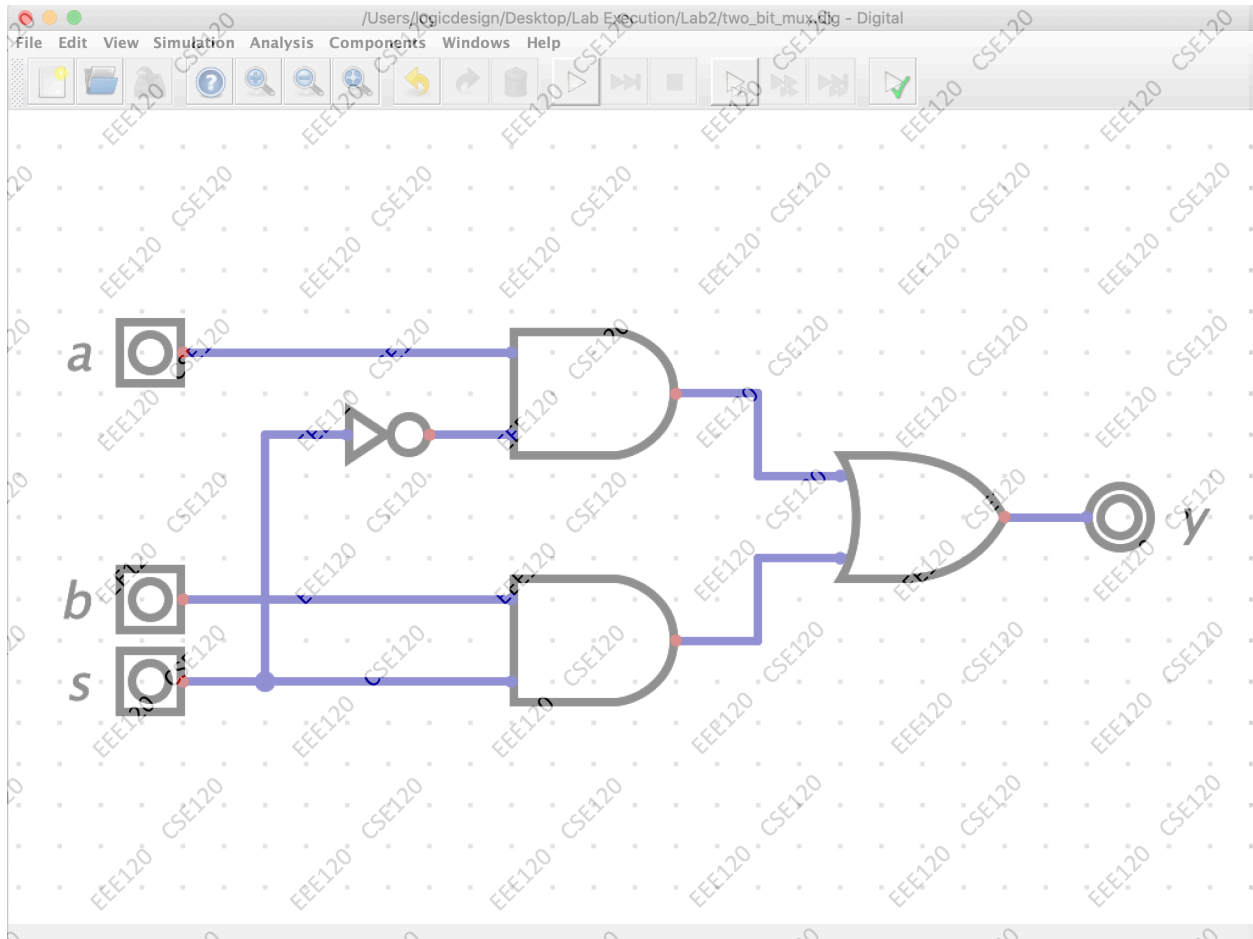

Figure 1. A 2-to-1 mulitplexer.
When we discuss the architecture of the microprocessor in Labs 3 and 4, we will find that hardware is needed that allows the executing program to select the route along which data flows. The component that we will need to perform this function is the **multiplexer**, or **mux**. A mux is a device that can be controlled to route one of its input signals to its sole output. Therefore, a mux is characterized by its number of signal inputs. In our case, we have two inputs and one output, thus we are dealing with a 2-to-1 or 2:1 mux. The schematic diagram for the 1-bit 2-to-1 mux you will build is shown in Figure 1. The control/select input, **s**, indicates that the output is identical to the **a** input when the select signal is low (0) and identical to the **b** input when the select signal is high (1). Build the multiplexer in Digital as shown in Figure 1.